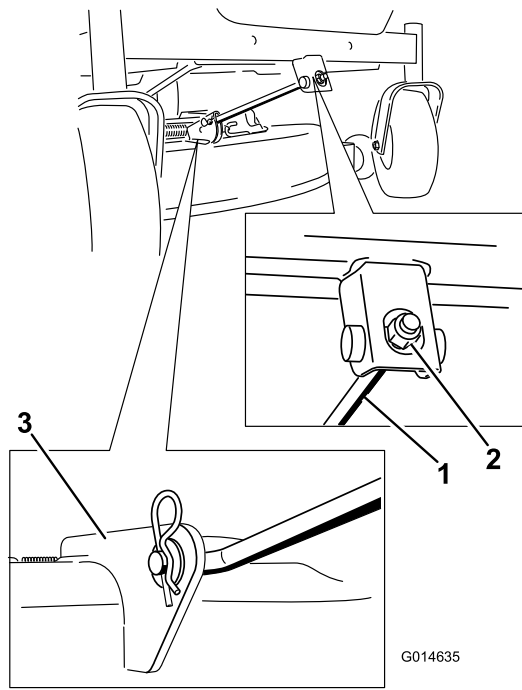

Figure 57
- Remove the hairpin-cotter pin from the front support rod, and remove the rod from the deck bracket (Figure 57).
6. Attach the front support rod to the mower deck with the clevis pin and hairpin-cotter pin (Figure 57).